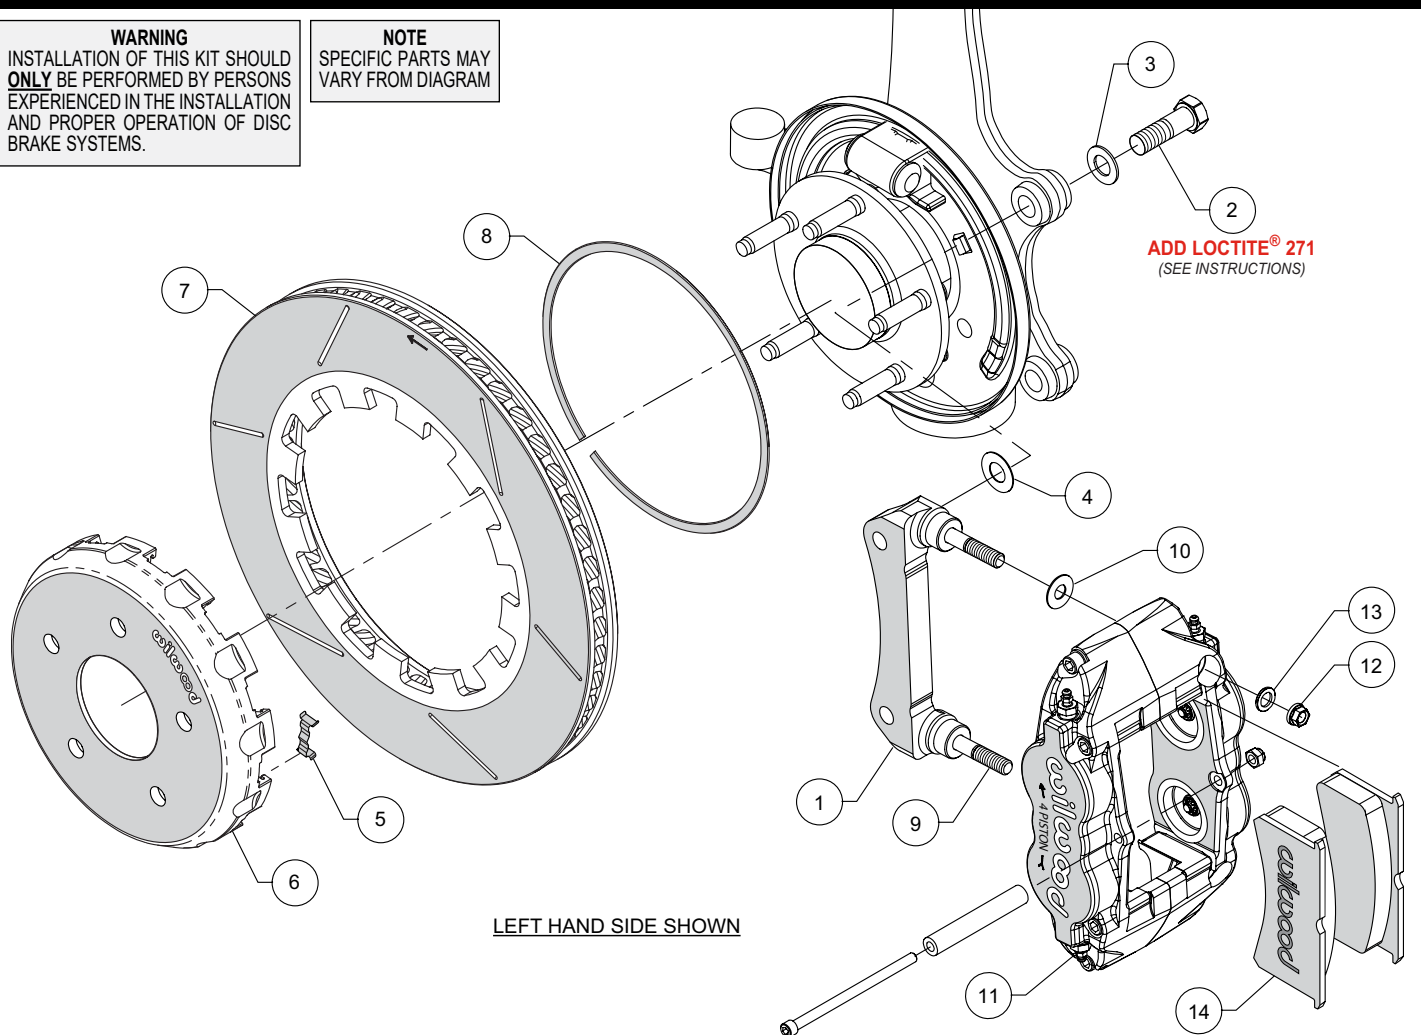

Figure 1. Typical Installation Configuration
NOTE: Numbers in parenthesis refer to the parts list and Figure 1 on the preceding pages.
- The caliper mount bracket (1) should initially be installed with clean, dry threads on the mounting bolts. Orient the bracket, as shown in Figure 1 and Photo 1, and install using bolts (2) and washers (3). Initially place one .029" thick shim (4) on each bolt between the bracket and upright, Figure 1. Temporarily tighten the mounting bolts. **NOTE:** *The bracket must fit squarely against the mount bosses on the upright.* Inspect for interference from casting irregularities, machining ridges, burrs, etc. Later, after the caliper alignment has been checked, the mount bolts will be secured using red *Loctite*® 271.
- Insert the dynamic mount wear clips (5) into the slots in the hat (6), Photo 2. Orient the rotor (7) as shown in Figure 1 and Photo 3, with the flush side of mount lugs facing the hat. Secure the rotor to the hat using the snap ring (8) by simultaneously pushing down on the rotor and installing the ring into the groove in the hat, as shown in Photo 4. Carefully inspect snap ring to ensure complete engagement in the groove.
- Initially place one .035" thick shim (10), on each stud (9) as shown in Figure 1 and Photo 6. Mount the caliper (11) onto the bracket (1) using lock nuts (12) and washers (13), Figure 1. Temporarily tighten the lock nuts and view the rotor through the top opening of the caliper. The rotor should be centered in the caliper, Photo 7. If not, adjust by adding or subtracting shims (4) between the bracket and the upright. Always use the same amount of shims on each of the two mounting bolts. Once the caliper alignment is correct, remove the bracket mounting bolts (2) one at a time, apply red *Loctite*® 271 to the threads, and torque to 77 ft-lb.
- Remove the caliper pad retainer bolt, nut, and tube from the caliper. Insert the brake pads (14) into the caliper, with the friction material facing the rotor, as shown in Photo 8. Check that the top of the brake pad is flush with the outside diameter of the rotor, Photo 9. If not, adjust by adding or subtracting shims (10) between the caliper and the bracket. After the caliper pad height is set, reinstall the pad retainer tube, bolt, and lock nut. The lock nut should be snug without play in the bolt or tube. Be cautious not to over tighten. Torque the caliper lock nuts (12) to 30 ft-lb.